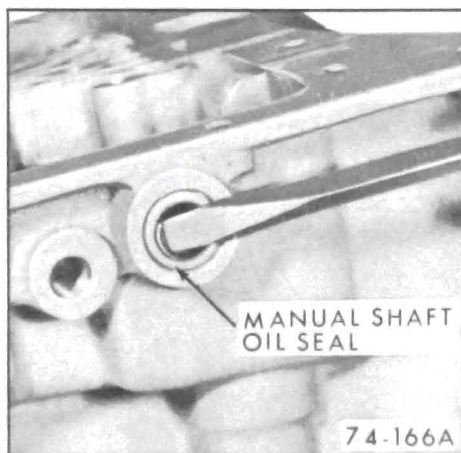

Figure 74-166
7. Examine manual shaft oil seal. If nicked, torn or worn, replace seal. See Figure 74-166.